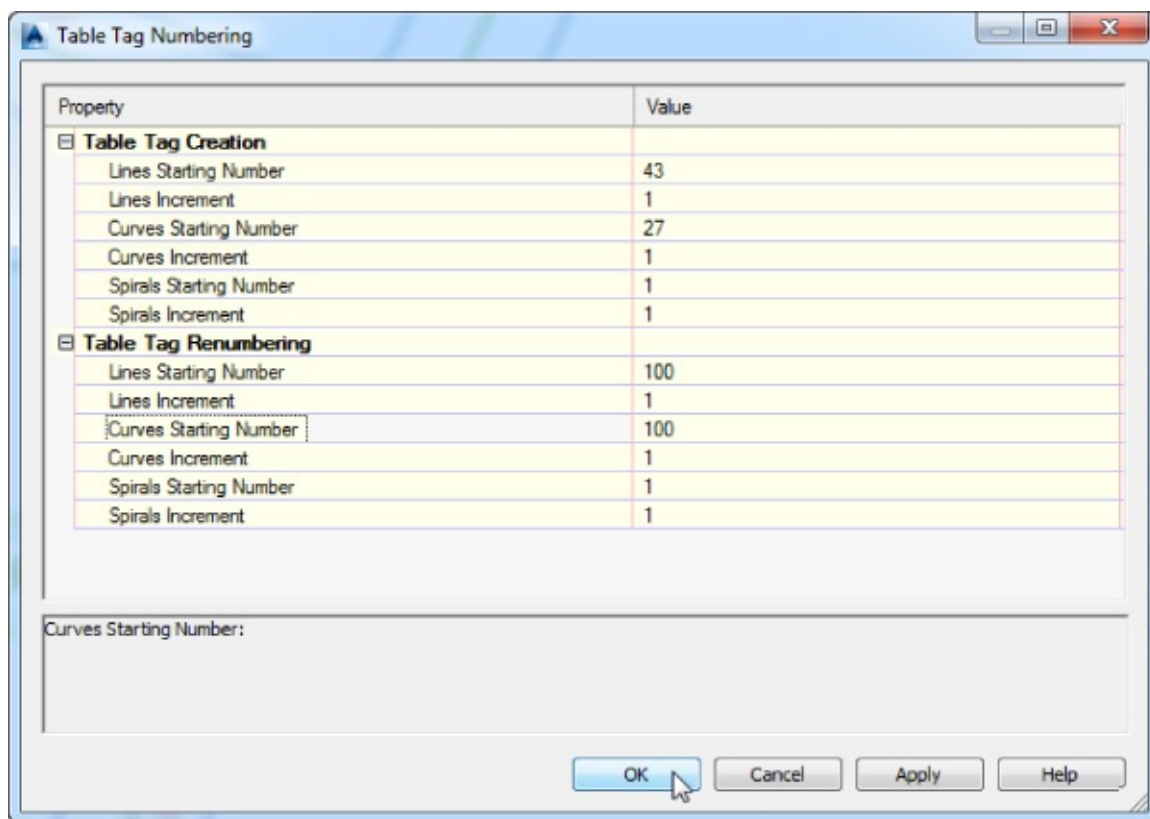

Figure 5.64 The Table Tag Numbering dialog
4. At the Select label to renumber tag or [Settings]: prompt, type **S**, and then press ↵. The Table Tag Numbering dialog appears (see Figure 5.64).